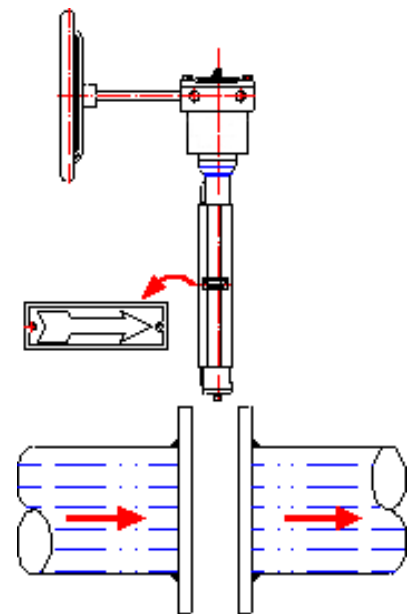

Fig.3
- 7.3. The shaft side of the disc is recommended installing at the low-pressure side of the valve, (as indicated on the drawings by a flow arrow) meaning the best closure performance is obtained on this side of the valve, and a determination as to the best installation should be made, to utilize this feature. This may not necessary be the normal flow direction of the system. (Fig.3).